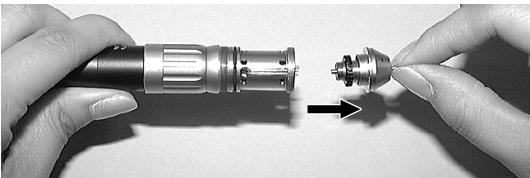

Fig.14
- (2) Hold the bur and pull out the cartridge toward the front. (Fig.14) At this time, the O-ring placed on the rear bearing may remain in the body. Make sure to remove the O-ring.